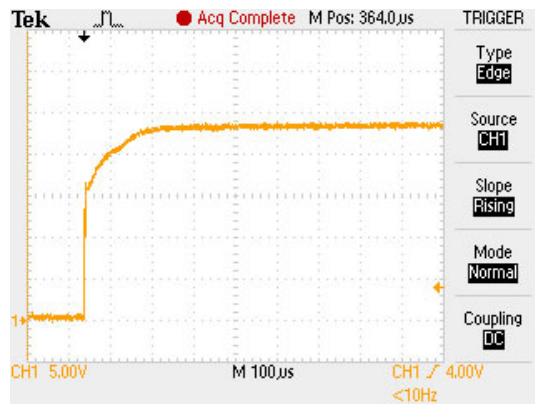

Figure 9. A 100µs time base oscilloscope shot of the 24V supply being hot-plugged into the Santa Cruz (M12-1).
**Figure 7** shows how well Santa Cruz's readings match with changes in angle of incidence from both horizontal and vertical rotation. These measurements were taken without a sensor enclosure lens and also without a sensor enclosure. **Figure 8** shows the Santa Cruz doing a 2ms cyclic data exchange with the IO-Link master. The Santa Cruz is robust in handling hot plug-in events without failing, essential for every sensor, and shown in **Figures 9–11**.